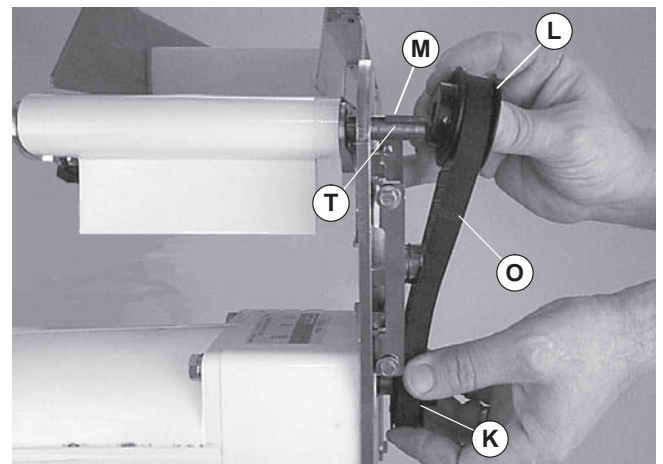
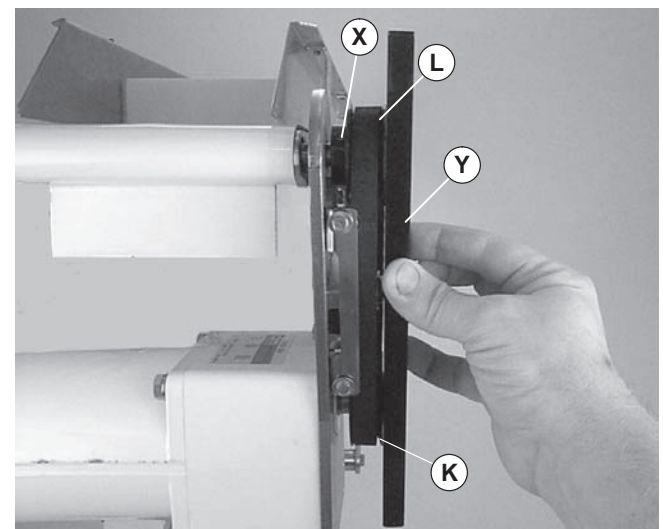

Figure 6
Figure 7
Figure 6 and Figure 7 show timing belt installation on a 7200 Series conveyor. Installation on a 7300 Series conveyor is similar.
5. Install key (Figure 6, item M) on conveyor input shaft (T).
6. Wrap timing belt (O) around driven pulley (L) and drive pulley (K). Install driven pulley (L) onto conveyor input shaft (T) and key (M).
7. Using a straight edge (Figure 7, item Y), align driven pulley (L) with drive pulley (K). Tighten driven pulley set screws (X).